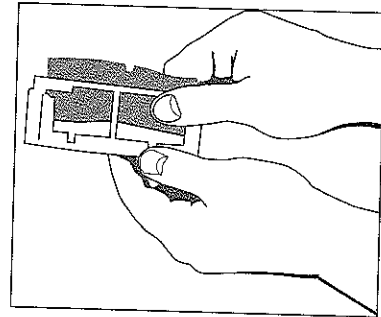

Figure 12
5. Insert clean filter into filter frame and install **Figure 12**.